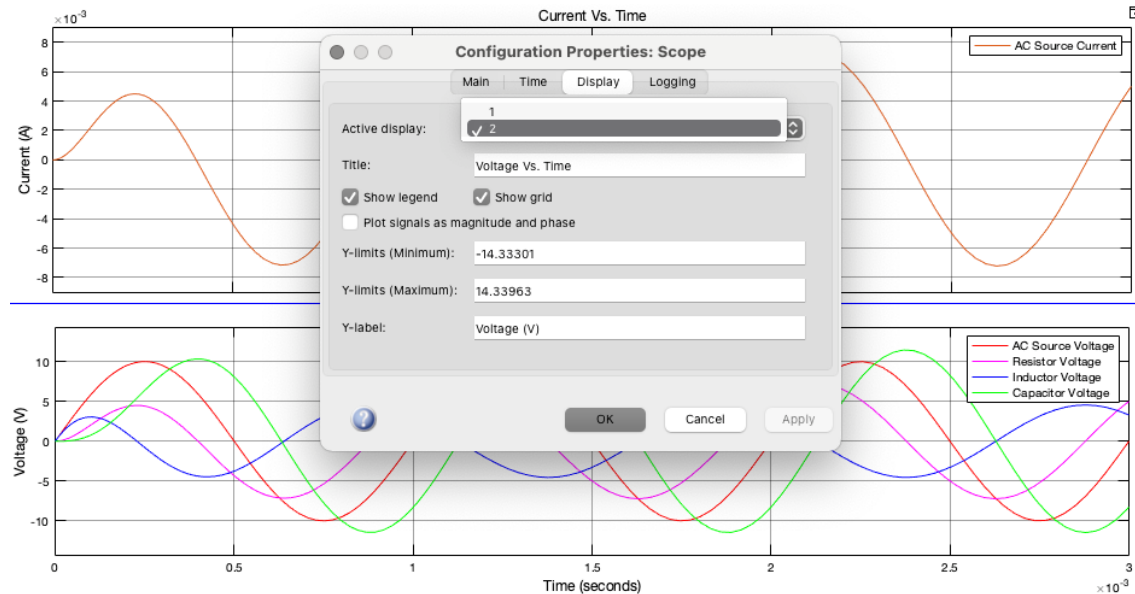

Figure 9: Selecting Individual Plots for Formatting
- To individually format the plots, go into the “Configuration Properties” and under the “Display” tab, select the display you want to format. For instance, in figure 9, the 2nd display (the Voltage Vs. Time plot) is selected. Once selected, you can change some of the formatting for the selected plot.